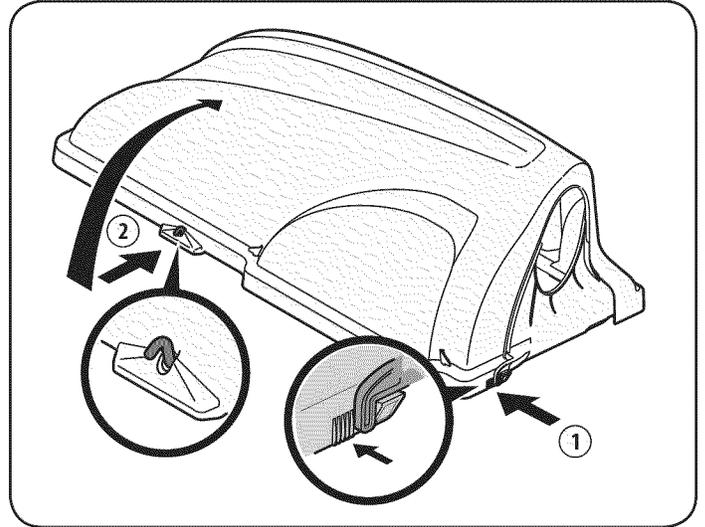

Figure 13
- Open Hood by pushing in on the rear, right-side tab with your right hand, as shown in 1 of Figure 13, and lifting the cover with your left hand in the center rear of the bagger cover, 2.